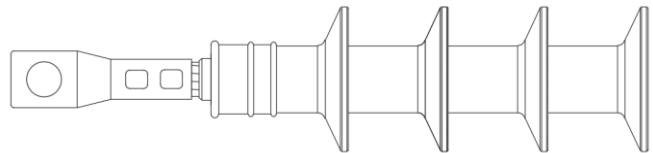

Fig.12
- Install the crimp terminal with specialized crimping pliers, and Install the shear bolt terminal as per the installation manual of the terminal. (Fig.12)